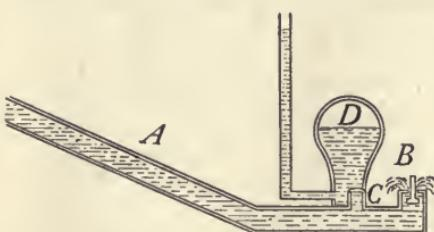

FIG. 47.—Cross-section of a hydraulic ram.
66. Hydraulic Ram.—The hydraulic ram (see Fig. 47) is an automatic device that is much used for raising water from springs to houses located on higher ground. Water flows through the pipe *A* through the opening at *B*. The pressure closes the valve at *B*.